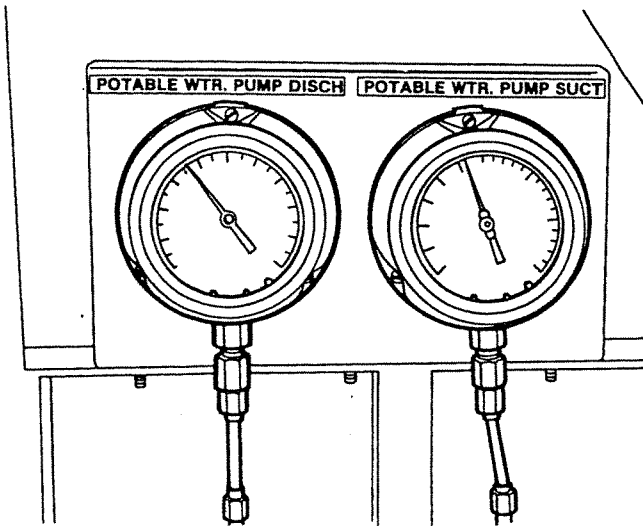

Figure 4-14. Potable Water Gages
4-45.3. **BASIC SYSTEM OPERATION.** The potable water system provides continuous supply from the stowage tanks to the hot water system and to cold potable water outlets throughout the craft (Figure 3-7). A gage board for monitoring suction and discharge of the fresh water pressure set is installed in the pump room (Figure 4-14). Normal operating pressure range for the potable water system is 30 PSI to 50 PSI.
3. Open regulator until internal noise increases, then close until pressure gage (Figure 4-14) steadies and internal noise ceases.